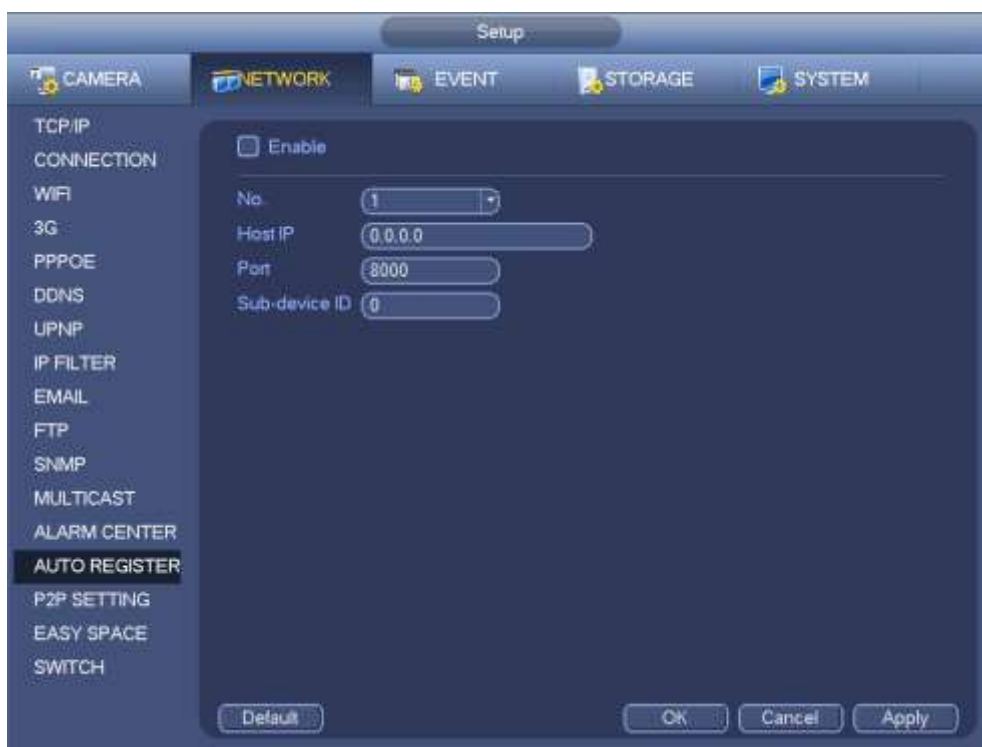

Figure 4-139
1) The setup interface is shown as in Figure 4-139.
3) Now you can add device. Please do not input default port number such as the TCP port in the mapping port number. The device ID here shall be the same with the ID you input in Figure 4-139. Click Add button to complete the setup.